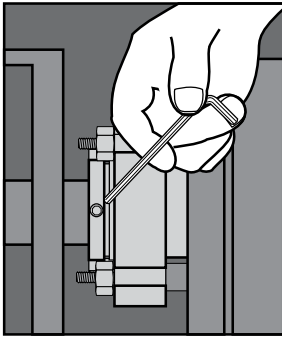

Figure 4
2.9 With the impeller, shaft, coupling and bearings in their final operating position, tighten the drive collar set screws. See Figure 4.